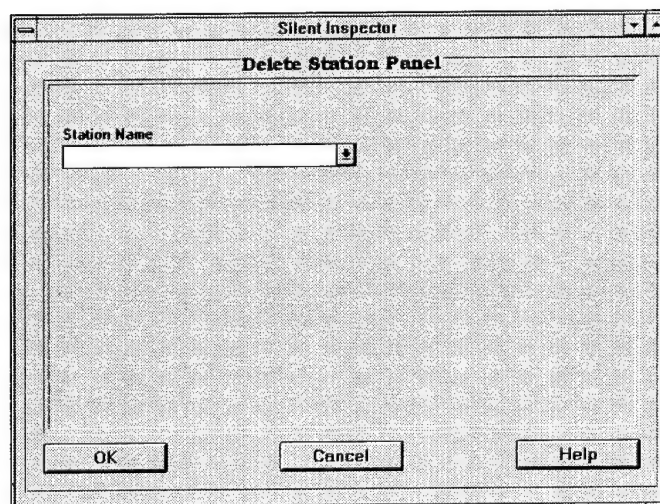

Figure 26. **Delete Station Panel** screen
- Click on **Delete** under the **Station** menu, and the **Delete Station Panel** screen (Figure 26) will appear.